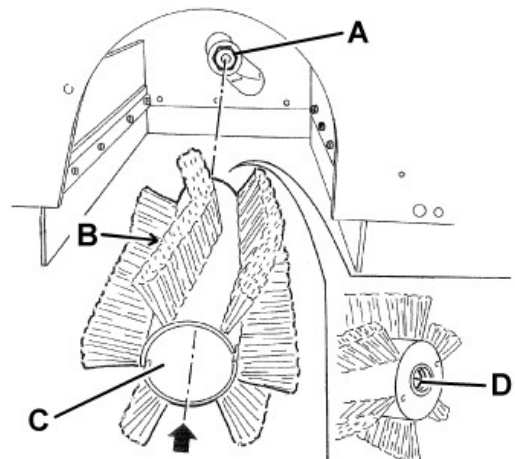

Figure 6
7. Check that the drive hub (A, Fig. 6) is free from dirt or foreign materials (ropes, rags, etc.) accidentally rolled up.
8. The new main broom must be installed with the bristles rows (B) bent as shown in the figure.
9. Install the new main broom (C, Fig. 6) and ensure that the mesh (D) correctly fits into the relevant drive hub (A).